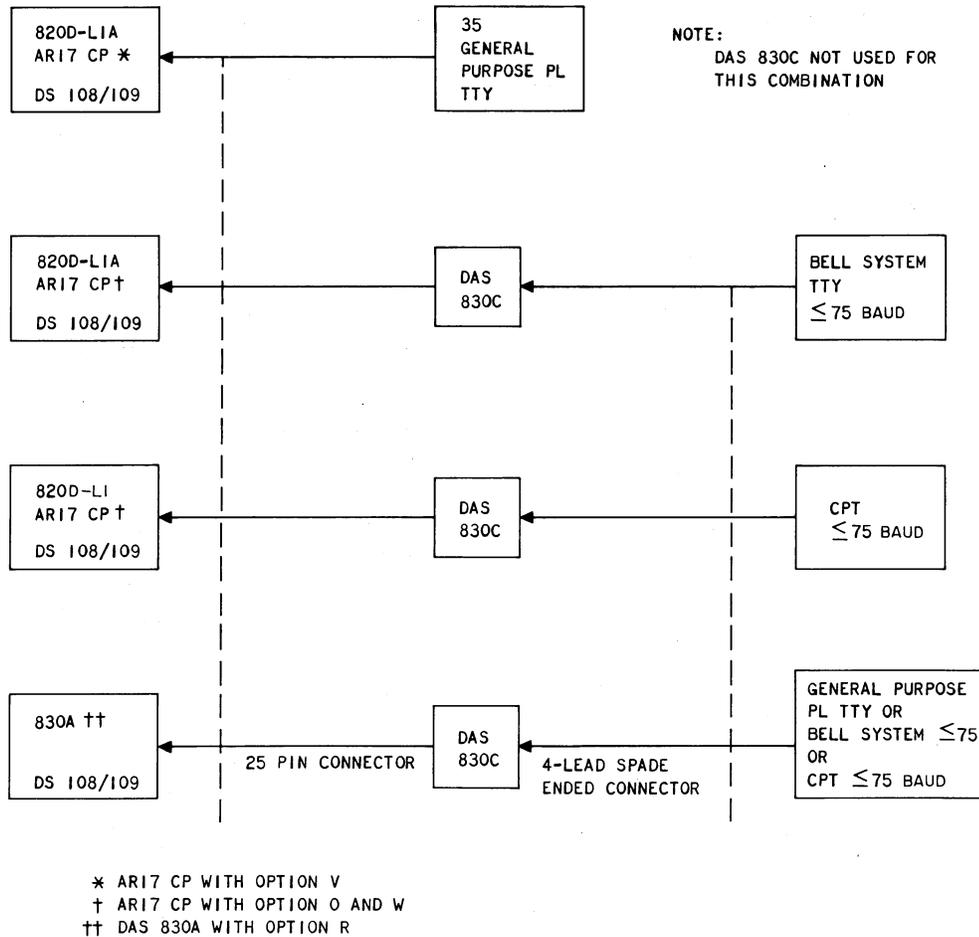

Fig. 3—Connecting Arrangements Using Data Auxiliary Set 820D or 830A
3.01 The connecting arrangements using DAS 830A or 820D-type (with AR17 circuit pack [CP]) are shown by Fig. 3. The DAS 830C is used in conjunction with a DAS 830A to provide a 3- or 4-wire 20 mA interface.